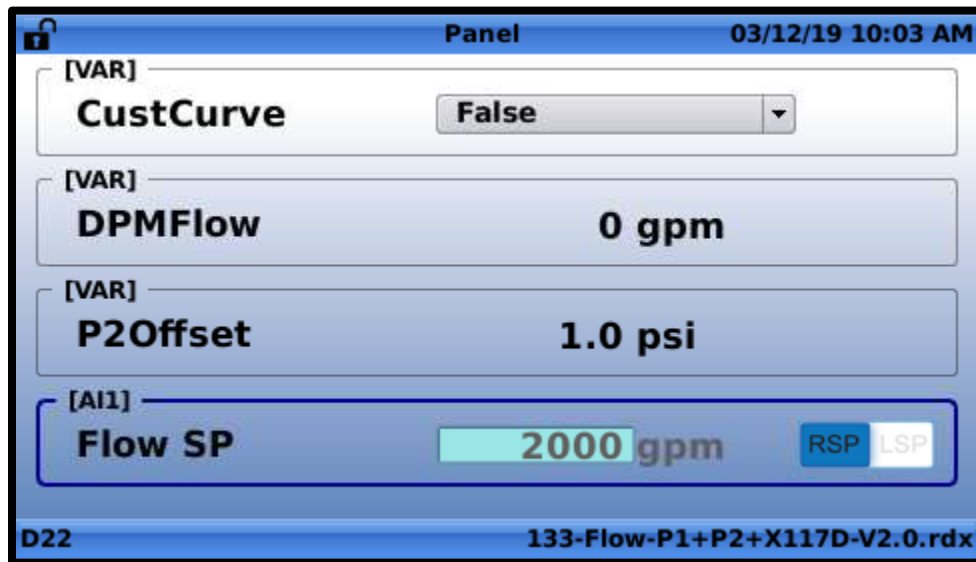

Figure 8.4
- Use the up and down navigation buttons to highlight the input to be changed as shown in **FIGURE 8.4**.